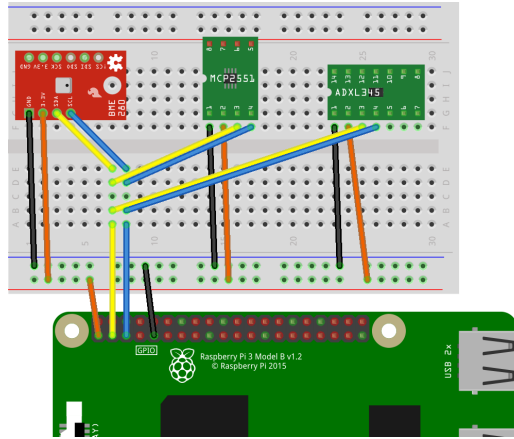

Figure 9-3 Physical sensors connection.
- Now let's connect the SCL (PIN5) and SDA (PIN3) wires. Connect them like as shown in the Figure 9-3 ;
- And insert the jumper wires connecting the sensor in the bus, like as shown in the Figure 9-3;
The Figure 9-3 shows how the electric connection is made.